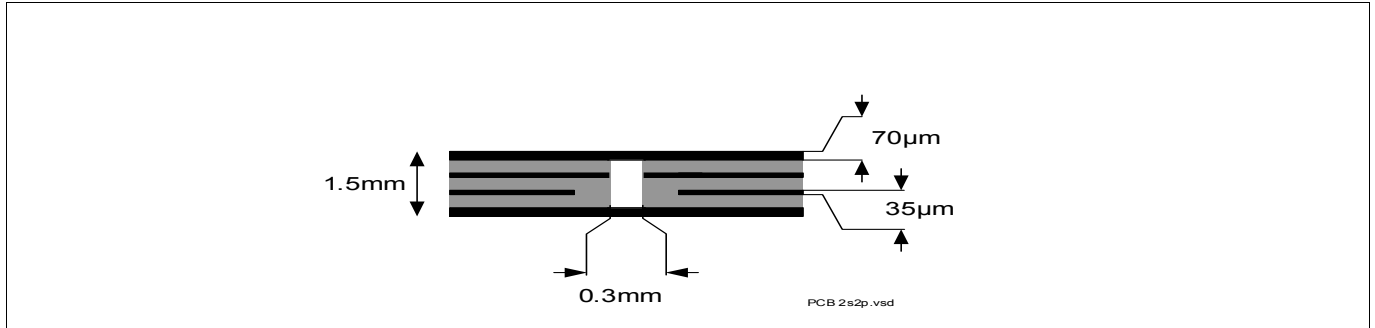

Figure 4 2s2p PCB Cross Section
2) Specified  $R_{thja}$  value is according to JEDEC JESD51-2,-5,-7 at natural convection on FR4 2s2p board; The product (chip + package) was simulated on a 76.4 x 114.3 x 1.5 mm board with 2 inner copper layers (2 x 70  $\mu\text{m}$  Cu, 2 x 35  $\mu\text{m}$  Cu). Where applicable, a thermal via array under the exposed pad contacts the first inner copper layer. Please refer to Figure 4.